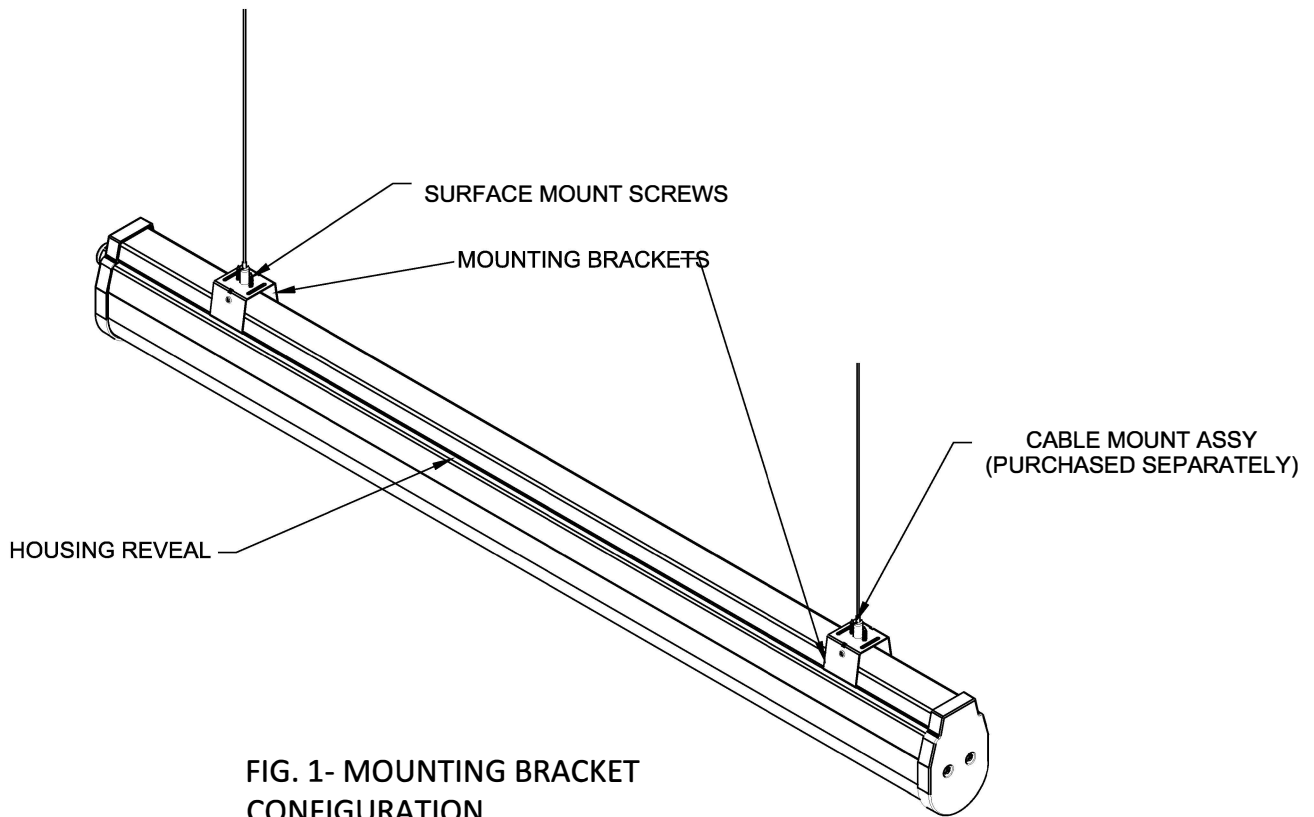

FIG. 1- MOUNTING BRACKET CONFIGURATION
- 2) To install with HANGER BRACKETS (See FIG.1):